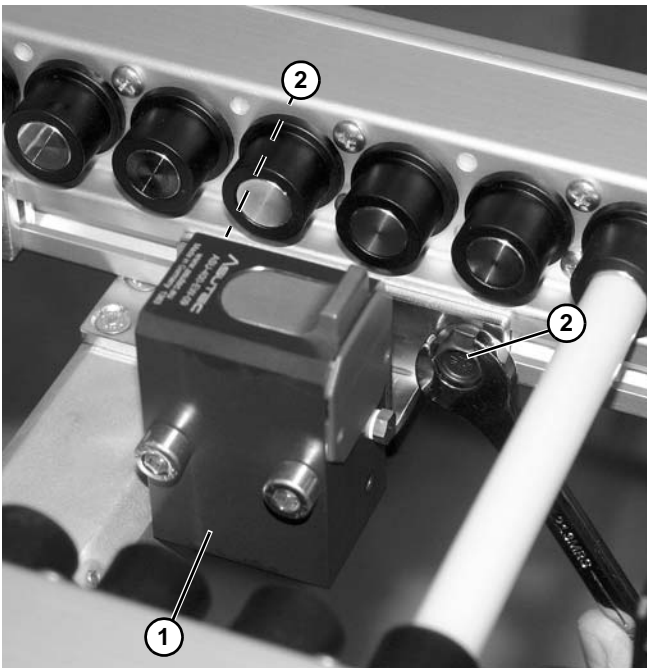

Figure 6
2. Install pallet stop (**Figure 6, item 1**) to conveyor using two screws (**Figure 6, item 2**). Tighten screws.